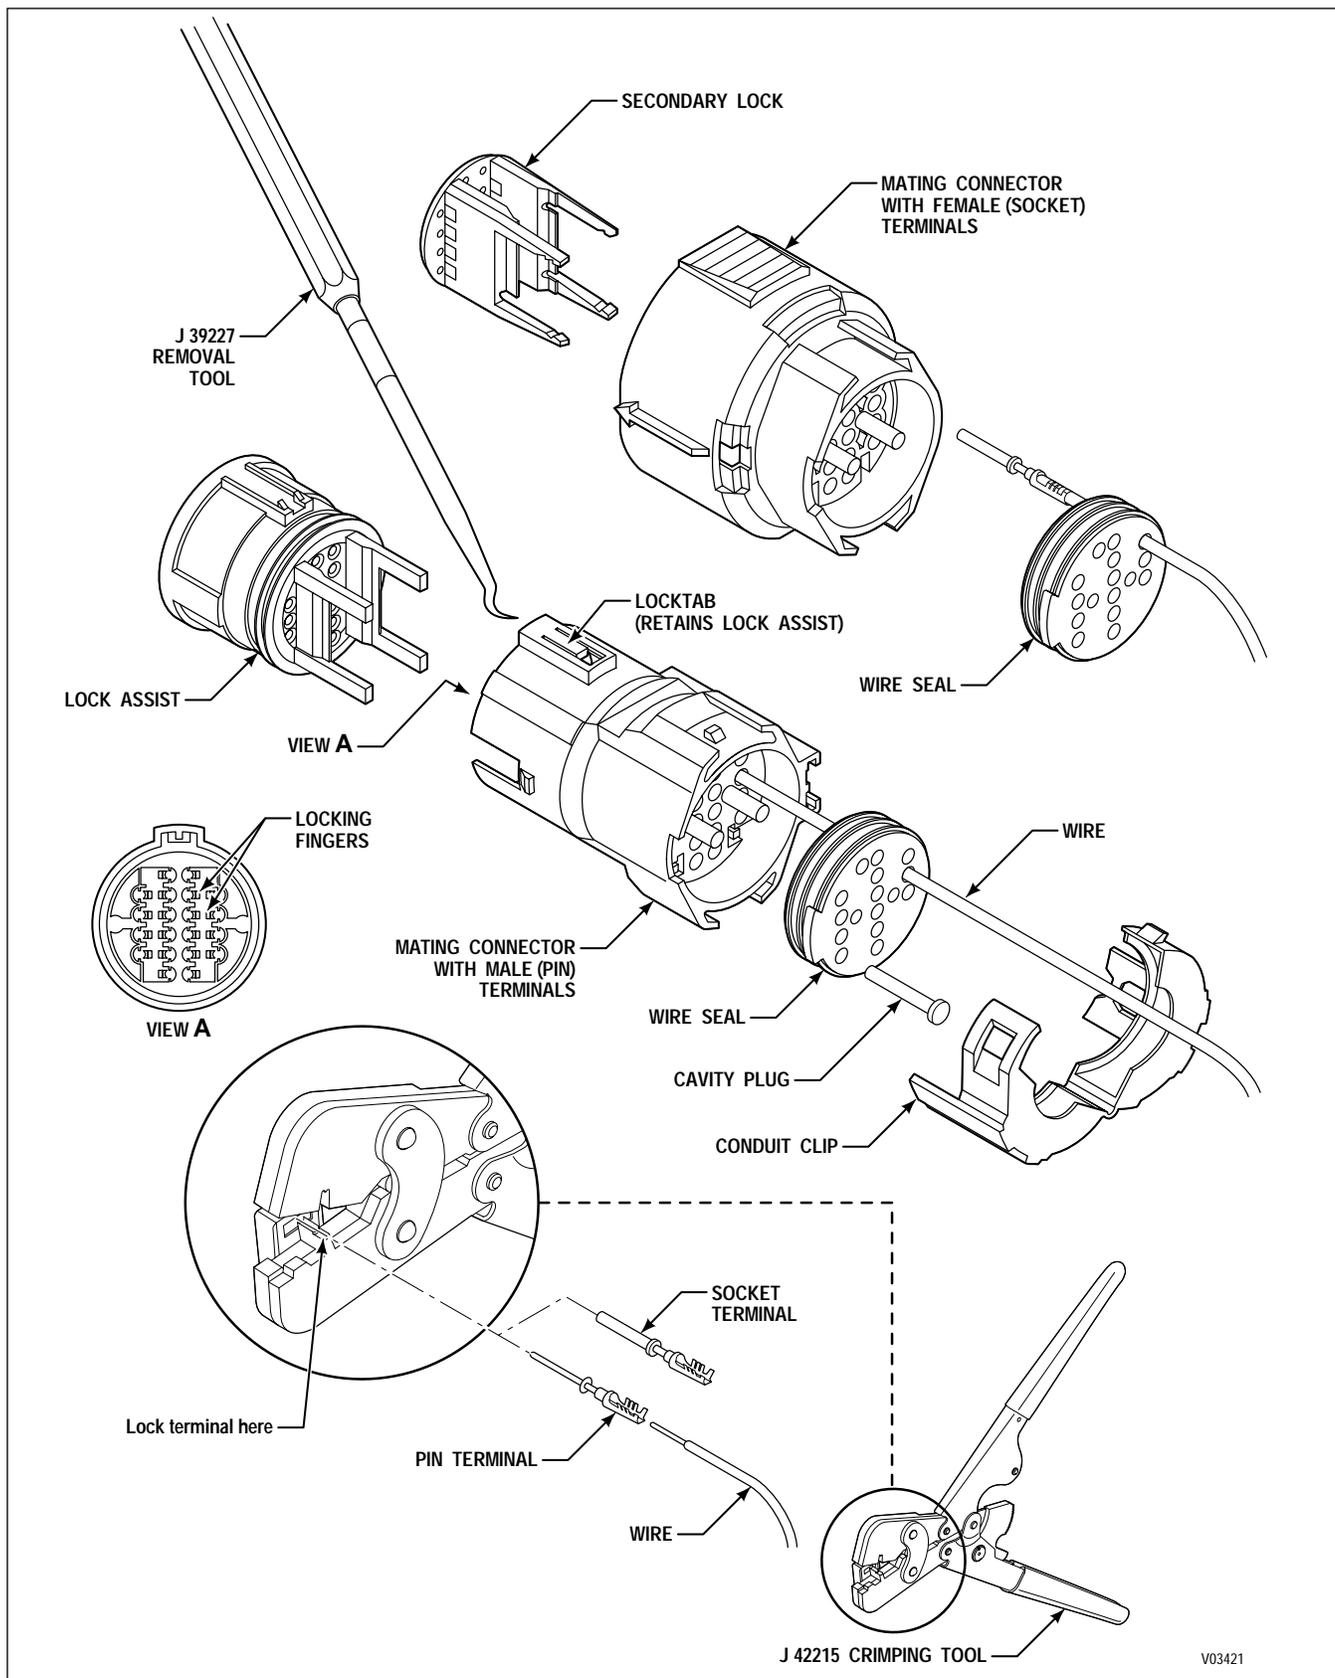

Figure C-1B. Delphi-Packard Micro-Pack Connector (VIWV, VIWS, Shift Selector)
2. VIWV and VIWS Harness Connectors and Shift Selector (Device) Connectors (*Figure C-1B*)
3. VIWV and VIWS (Device) Connectors and Shift Selector Harness Connectors (*Figure C-1B*)
4. Complete terminal installation for VIW and Shift Selector Connectors as follows: (*Figure C-1B*)